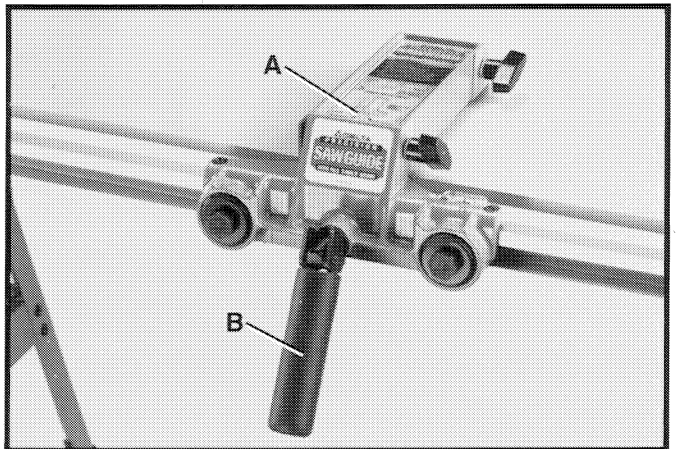

Fig. 46
4. Lock fence body (A) Fig. 46, to the guide rail by pushing down on handle (B) as shown.